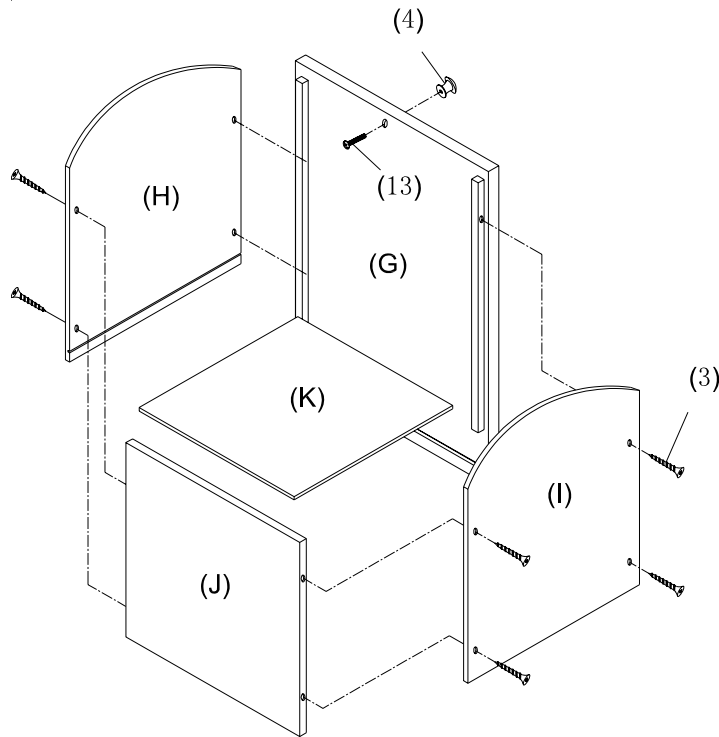

FIGURE 1
3. INSERT LARGE FLAT HEAD WOOD SCREWS ($\varnothing 3 \times 18 \text{mm}$) (3) THROUGH PREDRILLED HOLES ON OUTSIDE OF HAMPER LEFT SIDE PANEL (I) AND TIGHTEN INTO PREDRILLED HOLES ON ENDS OF HAMPER FRONT PANEL (G) AND HAMPER BACK PANEL (J). SLIDE HAMPER BOTTOM PANEL (K) INTO GROOVES ON HAMPER FRONT PANEL (G) AND HAMPER BACK PANEL (J) AND ALIGN WITH GROOVE ON HAMPER LEFT SIDE PANEL (I). ASSEMBLE HAMPER RIGHT SIDE PANEL (H) IN SAME MANNER. INSERT SMALL MACHINE SCREWS ($\varnothing 5/32'' \times 5/8''$) (13) THROUGH PREDRILLED HOLE ON BACK OF HAMPER FRONT PANEL (G) AND TIGHTEN INTO METAL KNOB (4). (AS SHOWN IN FIGURE 1)